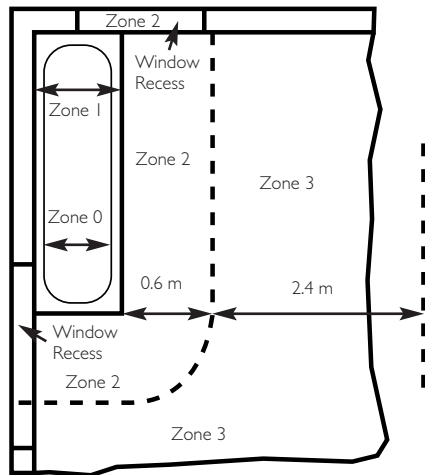

Fig. 11 In GB Only
1. As the boiler is fitted with an integral timer when installed in a room containing a bath or shower it cannot be fitted in zones 1 or 2. (Figs. 11 & 12 shows zone dimensions for a bathtub. For other examples refer to Section 601 of the Current I.E.E. Wiring Regulations). Reference must be made to the relevant requirements. In GB this is the current I.E.E. Wiring Regulations and Building Regulations. In IE reference should be made to the current edition of I.S. 813 "Domestic Gas Installations" and the current ETCI rules.